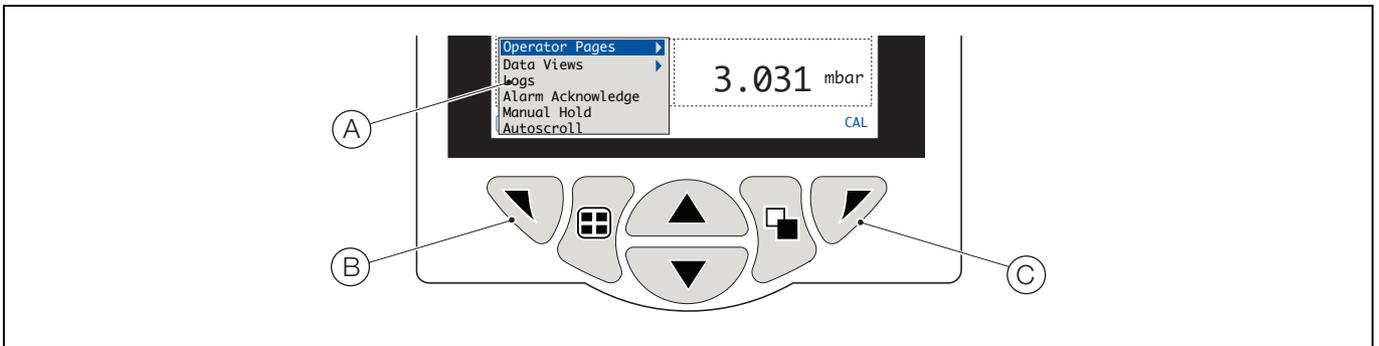

Fig. 9.2 Operator menus
The control unit has 4 modes of operation. All modes are accessed from the *Operator* menu – see Fig. 9.2.
Referring to Fig. 9.2, *Operator* menus (A) are accessed from any *Operating*, *View* or *Log* page by pressing the  $\nabla$  key (B).